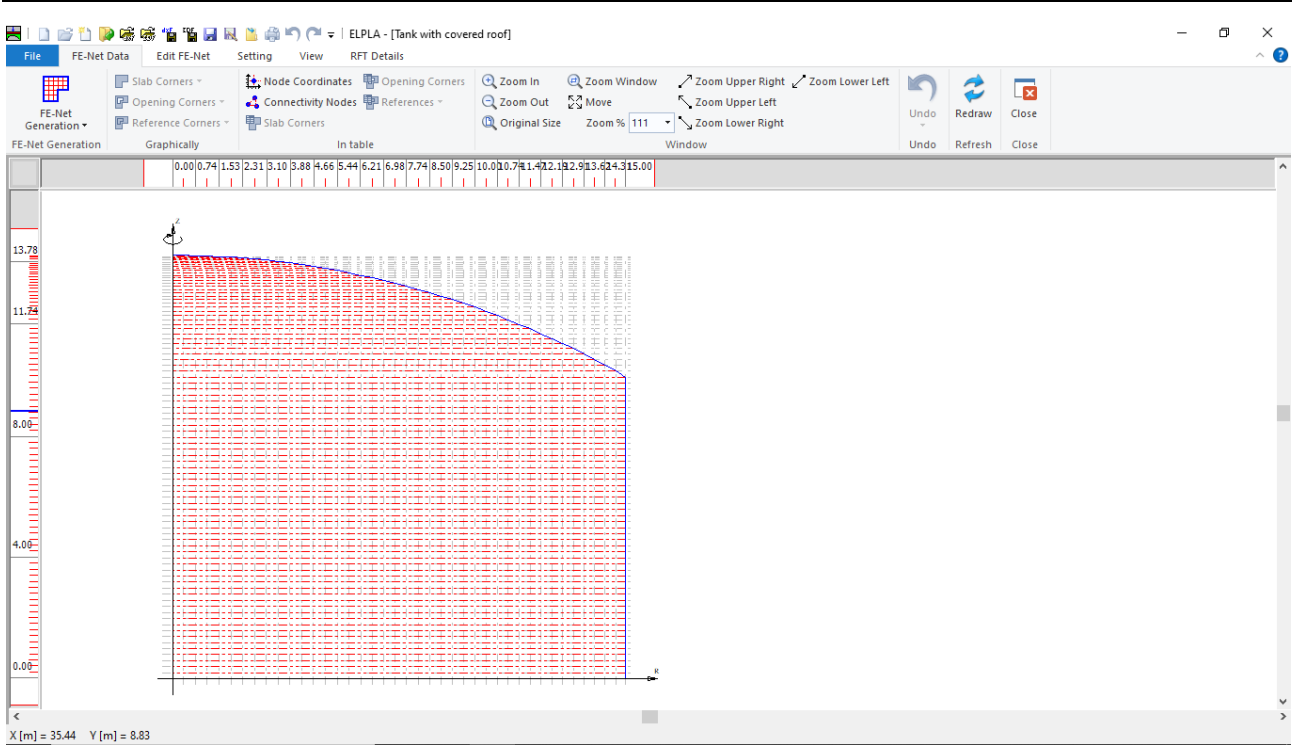

Figure 5.9 Generated FE-Net
Click "Finish" in "Analysis of rotational shell" wizard, to generate the FE-Net. The generated FE-Net appears Figure 5.9.
- Choose "Save" command from "File" menu in Figure 5.9 to save the data of the FE-Net
- Choose "Close" command from "File" menu in Figure 5.9 to close the "FE-Net" window and return to *ELPLA* main window